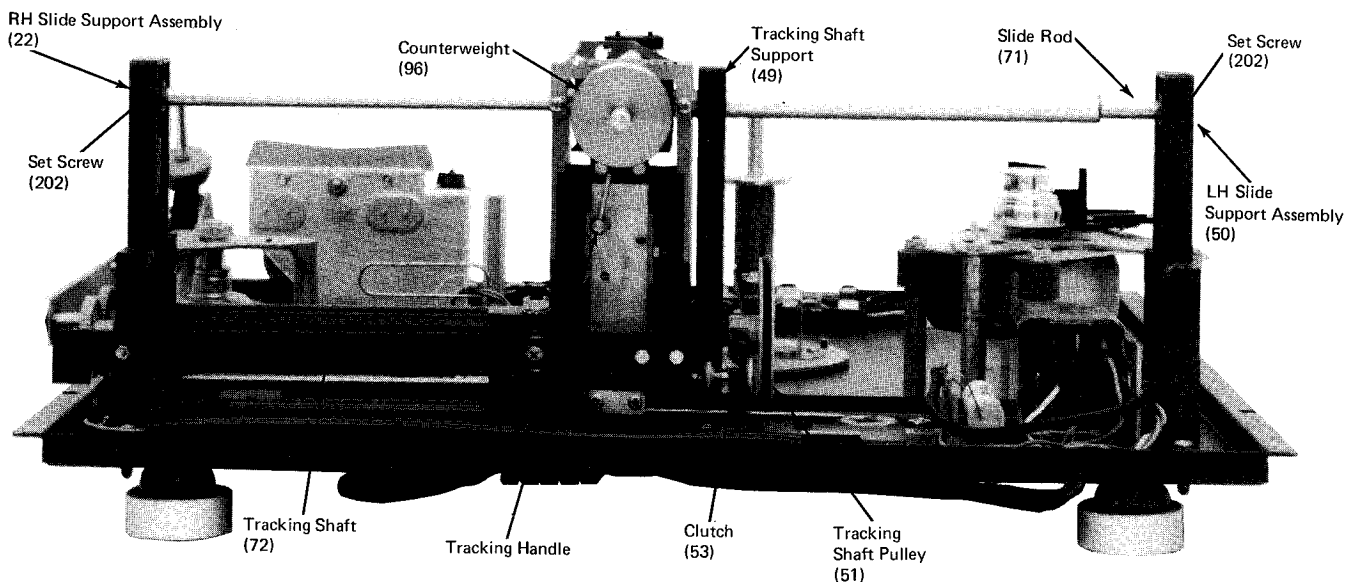

Figure 10
Locate Terminal Strip TB1 on Figure 3. Unsolder five tone arm signal leads (red, green, yellow, white, black). Referring to Figure 10 and 11, locate LH cover (6) and RH cover (7). Remove machine screws (195, 196) fastening covers, and remove both covers. Loosen setscrews (202) on back of LH and RH slide support assys (22) and (49), and remove slide rod (71). Loosen two setscrews (203) on tracking shaft pulley (51) and remove from tracking shaft (72). Remove two machine screws anchoring tracking shaft support (49) to base. Carefully slide carriage assembly off tracking shaft (72).